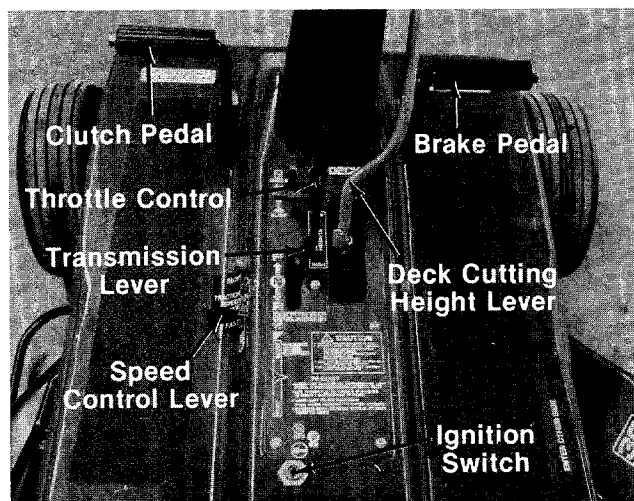

FIGURE 18. CONTROLS
CONTROLS (See figure 18)
The throttle control is used to regulate the engine speed and to activate the choke on the engine. To get maximum efficiency from cutting, the throttle should be in the "FAST" position when operating the mower. Pushing the throttle all the way forward past "FAST" will choke the engine. See figure 18.
The ignition switch is located on the console. Remove the key when the mower is not in use. See figure 18.
6. Turn the ignition key to the "START" position. When the engine is running, let the key return to the "ON" position. See figure 18.